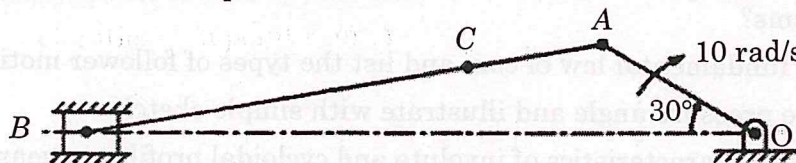

Fig. 3
- (b) In the slider-crank mechanism shown in Fig.3, the lengths of the various links are:  $OA = AC = 200 \text{ mm}$ ,  $AB = 600 \text{ mm}$ . The crank rotates at a constant angular velocity of  $10 \text{ rad/s CW}$ . Determine the angular acceleration of the connecting rod  $AB$ , acceleration of slider  $B$ , and acceleration of a point  $C$  in  $AB$ .